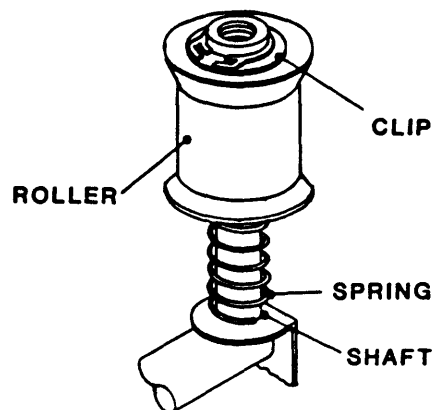

**Figure 4-26 Capstan**
**4.3.31 CAPSTAN (Figure 4-26)**